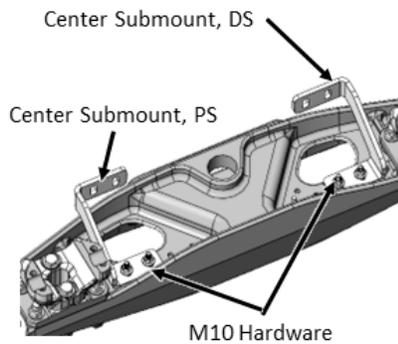

Figure 2e: Center Submounts
5. Re-install the OEM Harness Bracket to the upper rear of OEM Center Tow Crossmember as shown in Figure 2b and install the Center Submounts at the bottom of OEM Center Tow Crossmember as shown in Figures 2e and 2f. Use the provided M10 Hardware to fasten loosely.